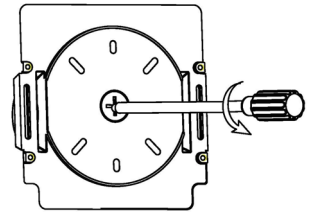

Fig. 2
3. Remove the 1/2" end cap (fig. 2)